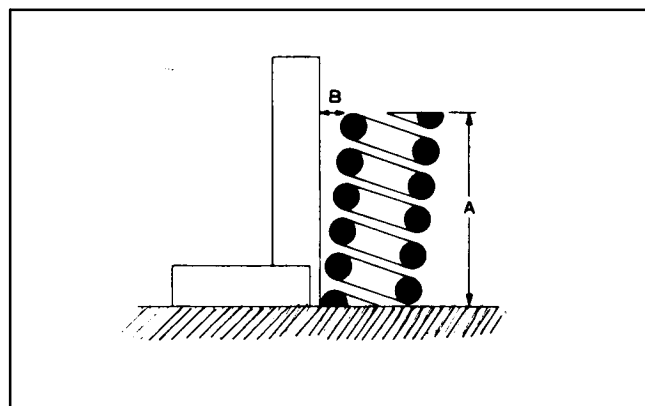

FIGURE 10-9. VALVE SPRING CHECKS
**Springs:** Check the valve springs for cracks, worn ends, and distortion. If the spring ends are worn, check valve retainer for wear. Check for spring distortion by placing the spring on a flat surface next to a square. Measure the height of spring (A) and rotate it against a square to measure distortion (B), see Figure 10-9. Replace any valve spring that is weak, cracked, worn, or distorted.